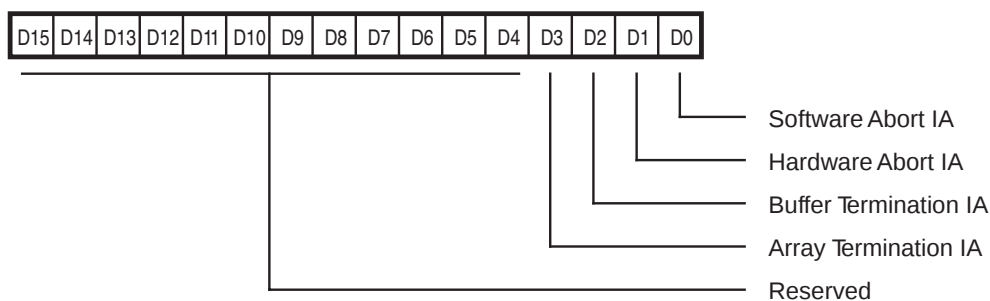

Figure 20. Tx/Rx DMA Interrupt Arm (TDIAR)/(RDIAR)
\* The format of this register is the same for the receiver and transmitter. The transmit register is accessed by addressing it with the D//C pin Low (0). The receive register is accessed by addressing it with the D//C pin High (1). This applies to Figures 20 through 26.